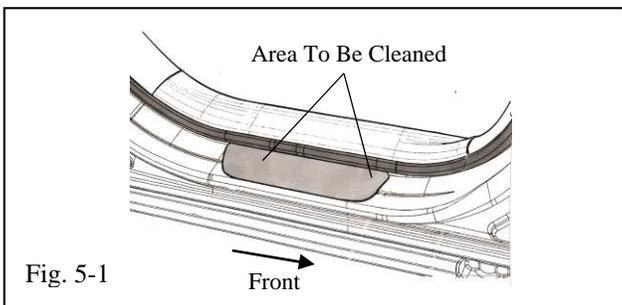

Fig. 5-1
- b. Clean and degrease rear door sill where protector is to be located with VDC Approved Cleaner or Soap & Water Mixture (Fig. 5-1).